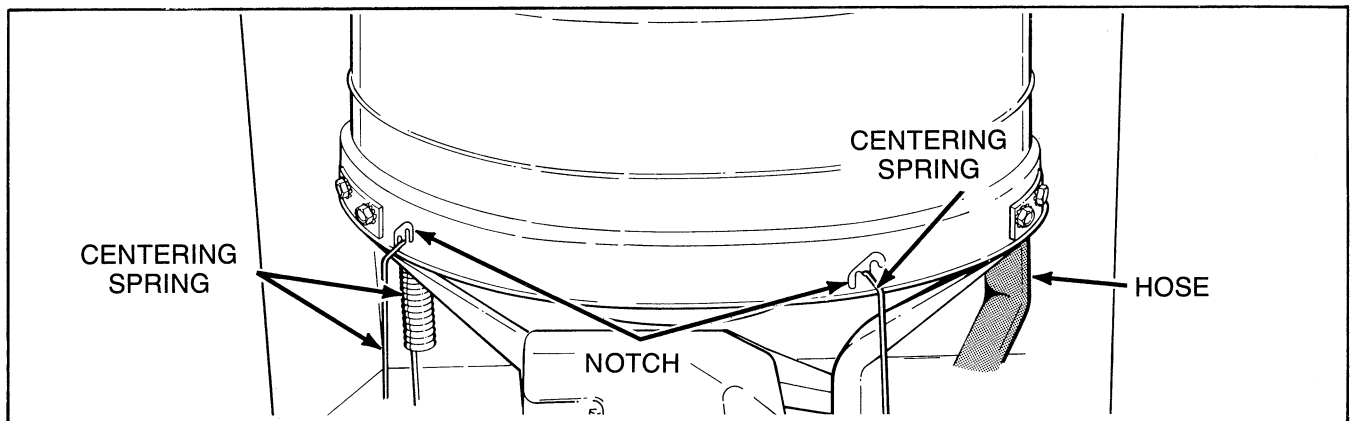

Figure 32
- n. Using the No. 229P4 Spring Hook Tool, unhook the five centering springs from lower edge of outer tub, *Figure 32*.
- i. Using the No. 229P4 Spring Hook Tool, unhook the five centering springs from the lower edge of outer tub, *Figure 32*.